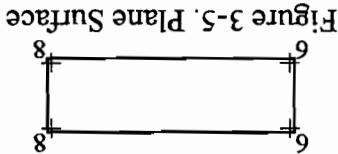

Figure 3-5. Plane Surface
■ **Plane Surface** — Any surface having a definable area described by points of known elevation at. Figure 3-5 shows a typical sloping plane surface with elevation callouts at the corners.